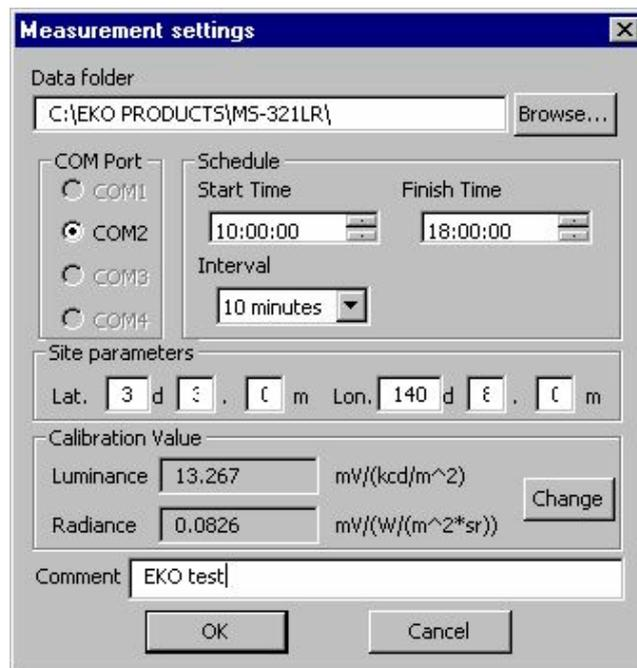

Figure 6-4. Measurement Setting Dialog Window
To setup the measurement configuration, open the Measurement settings dialog window (Figure 6-4) either from [Measure (O)] → [Setting (P)] from the File Menu, or click the [Setup (12)] button from the Toolbar.
Below dialog window appears by clicking the “Change” button on the Measurement Setting dialog window (Figure 6-4).